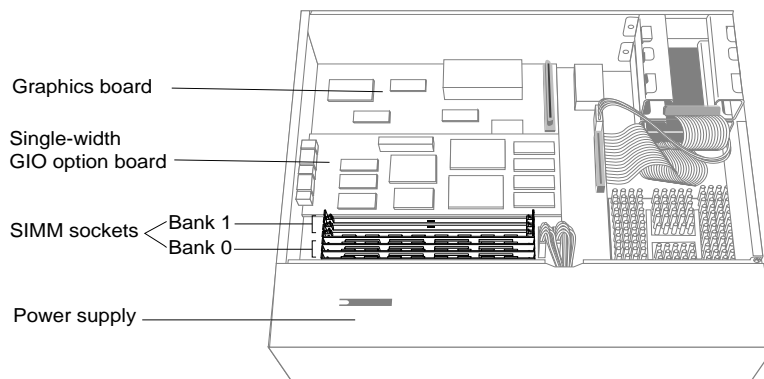

Figure 3-1 Locating the SIMM Sockets
5. Move the system or position yourself so that you are facing the power supply. The SIMM sockets are located as shown in Figure 3-1.